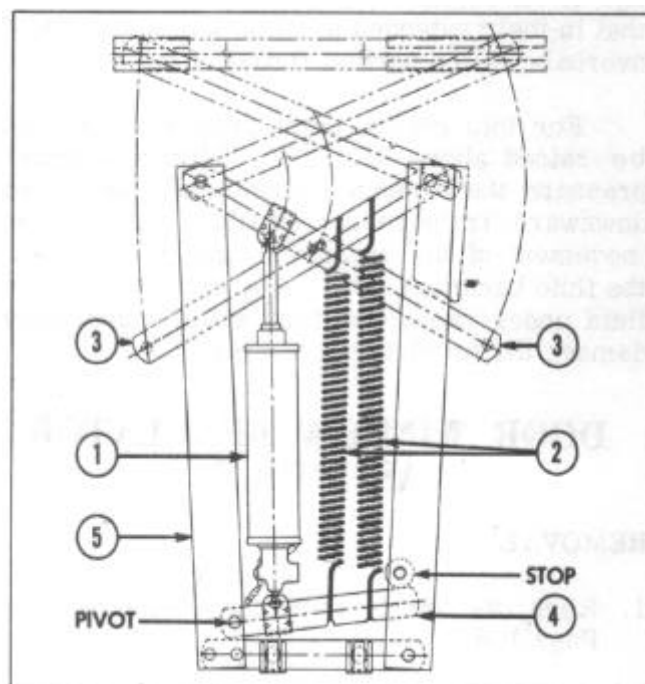

FIGURE 153
The window regulator frame assembly, Figure 153, is designed as a unit to provide a mounting for the cylinder assembly (1) and retracting springs (2), and for the cross arms (3), which control the window and hold it in alignment. The cross arms are conventionally connected to the window by sliding studs.
The retraction springs, at the lower ends are connected to this same expansion arm (4), Figure 153, between the cylinder and the stanchion side member. The upper ends of the retraction springs are connected to the moveable cross arm (3).